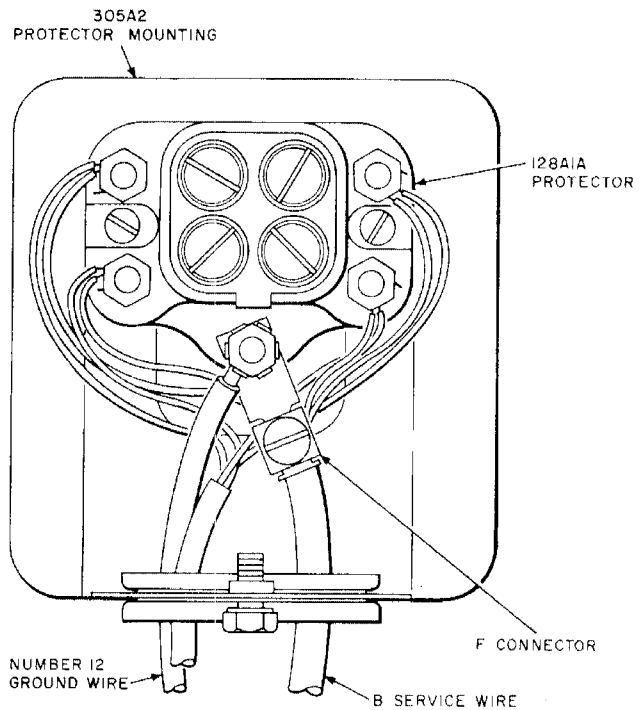

Fig. 9—Service Wire on Protector
5.05 Terminate service wire on a protector as illustrated in Fig. 9. Place the tongue of the F Connector under the prong washer. Place the ground wire between the prong washer and brass washer. Tighten the nut securely.